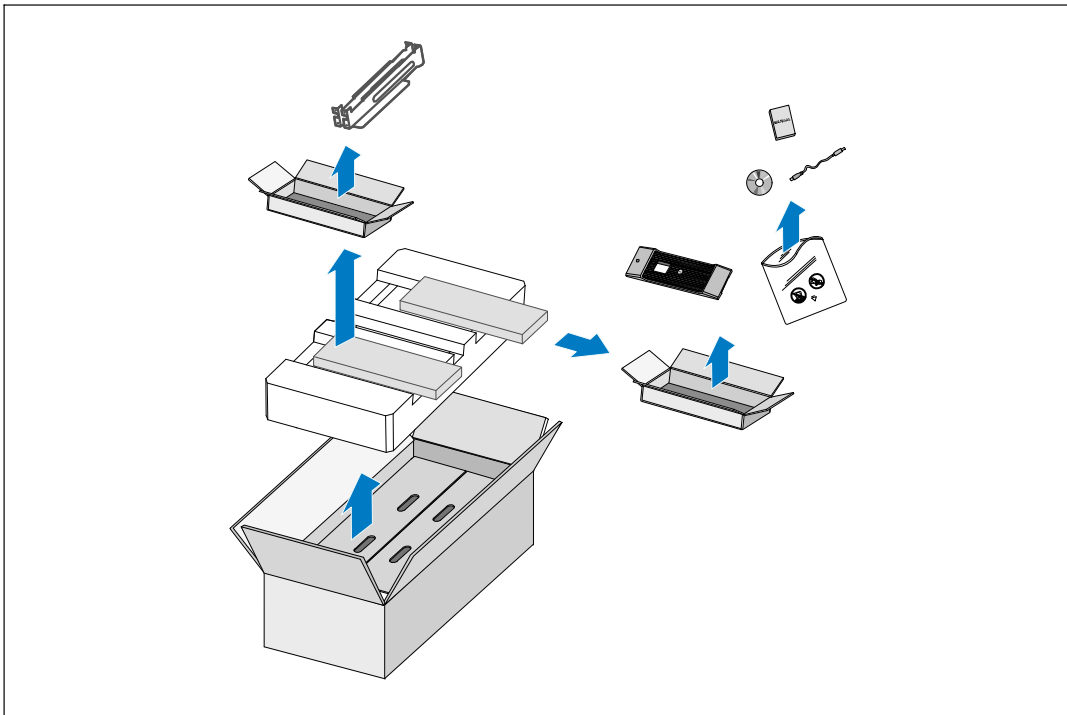

Figure 2. Unpacking the Cabinet
- 1 Open the outer carton and remove the accessories packaged with the cabinet (see Figure 2).